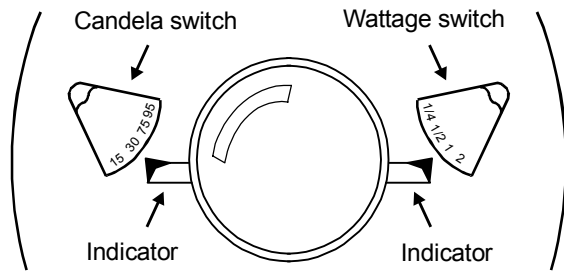

Figure 4: Field configurable switches
4. Slide the wattage switch to the desired wattage tap (2 W, 1 W, 1/2 W, or 1/4 W) by aligning it with the indicator below the switch. See Figure 4.
5. Slide the candela switch to the desired candela output (15, 30, 75, or 95 cd) by aligning it with the indicator below the switch. See Figure 4.